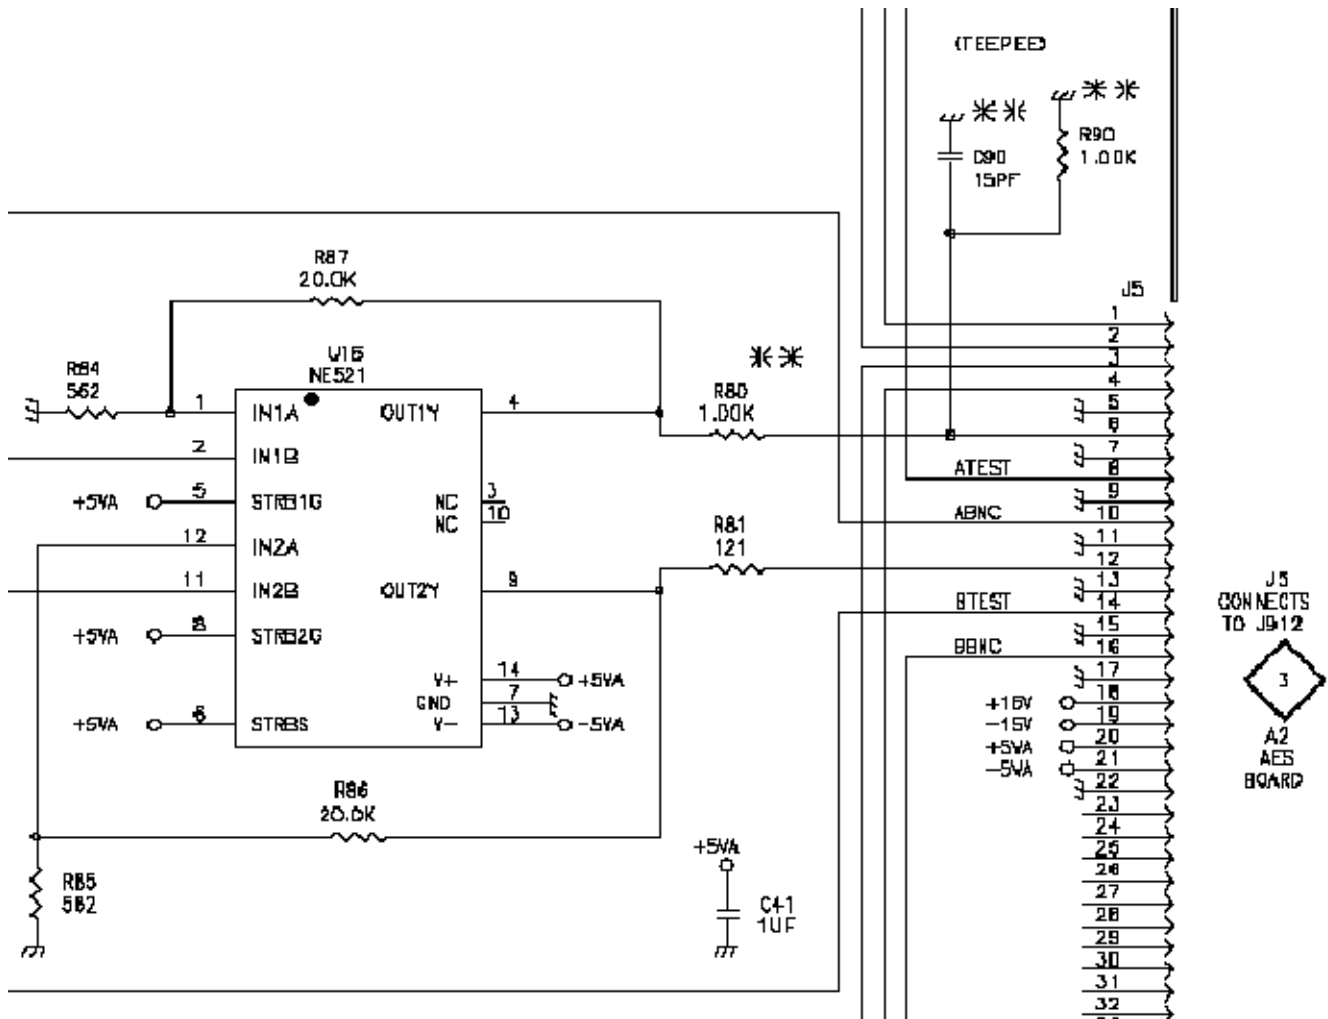

Figure 8: Partial schematic of the XLR board, showing new and changed parts
2. Add a new 1.00 K ohm resistor (Tektronix part number 322-3193-00) and 15 pF capacitor (Tektronix part number 281-0797-00) between the grounded end of R84 and R80 as shown in Figure 7. See Figure 8 for the schematic.